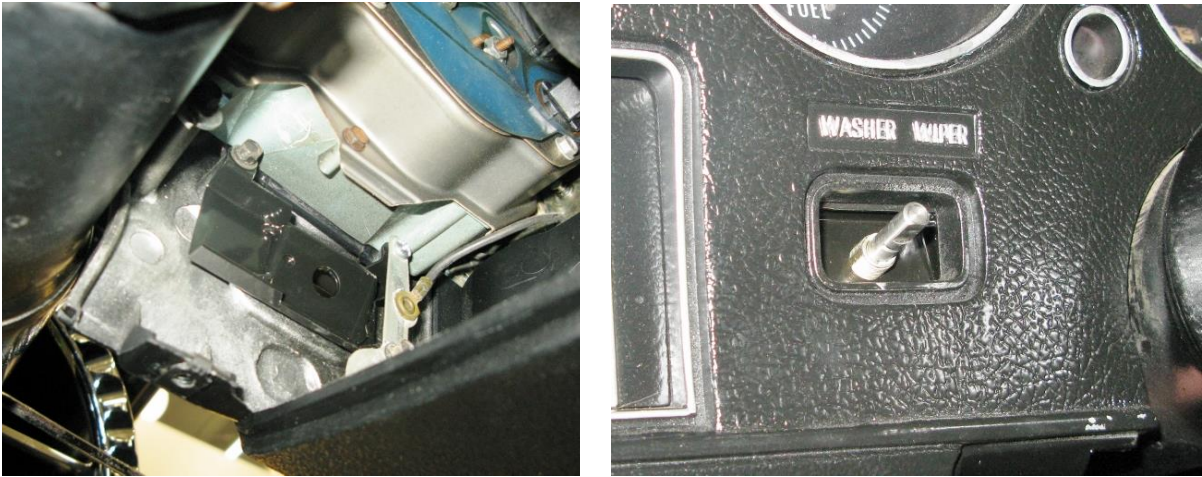

Figure 6 – Install Wiper Switch
- Place the 3/8" AN washer and the hex nut onto the switch shaft and tighten the nut (Figure 6). Slide the wiper knob onto the switch shaft. Align the set screw with the flat on the switch shaft and tighten. **NOTE:** Make sure the set screw locks onto the flat on the switch shaft.